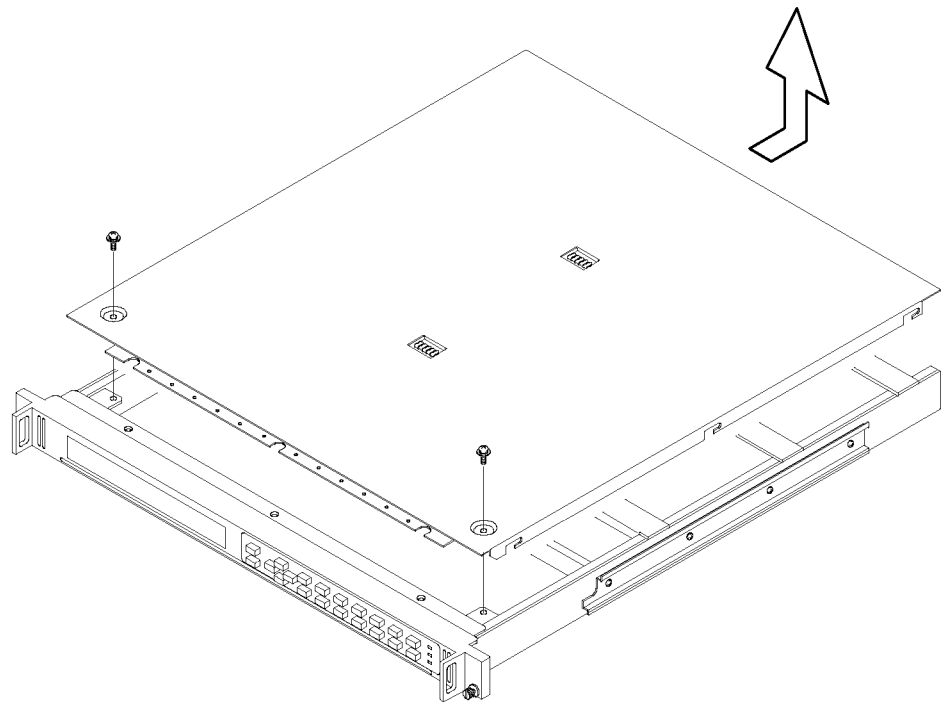

Figure 34: Top cover removal (version of instrument with two screws)
3. Lift the top cover off the instrument. Depending on the version of your instrument, you might need to slide the top cover toward the rear before lifting it off the instrument. (See Figure 34.)